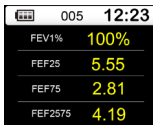

Figure 5 Other parameter interface
c. **Other parameter interface:** display four parameters except the main parameter, as shown in Fig.5.
d. **Under (Main parameter) interface,** press “Up” or “Down” key will enter (Other parameter) (Flow rate-volume chart) (Volume-time chart) in turn, as shown in Fig.5, 6, 7. The four interfaces above are (Main interface).